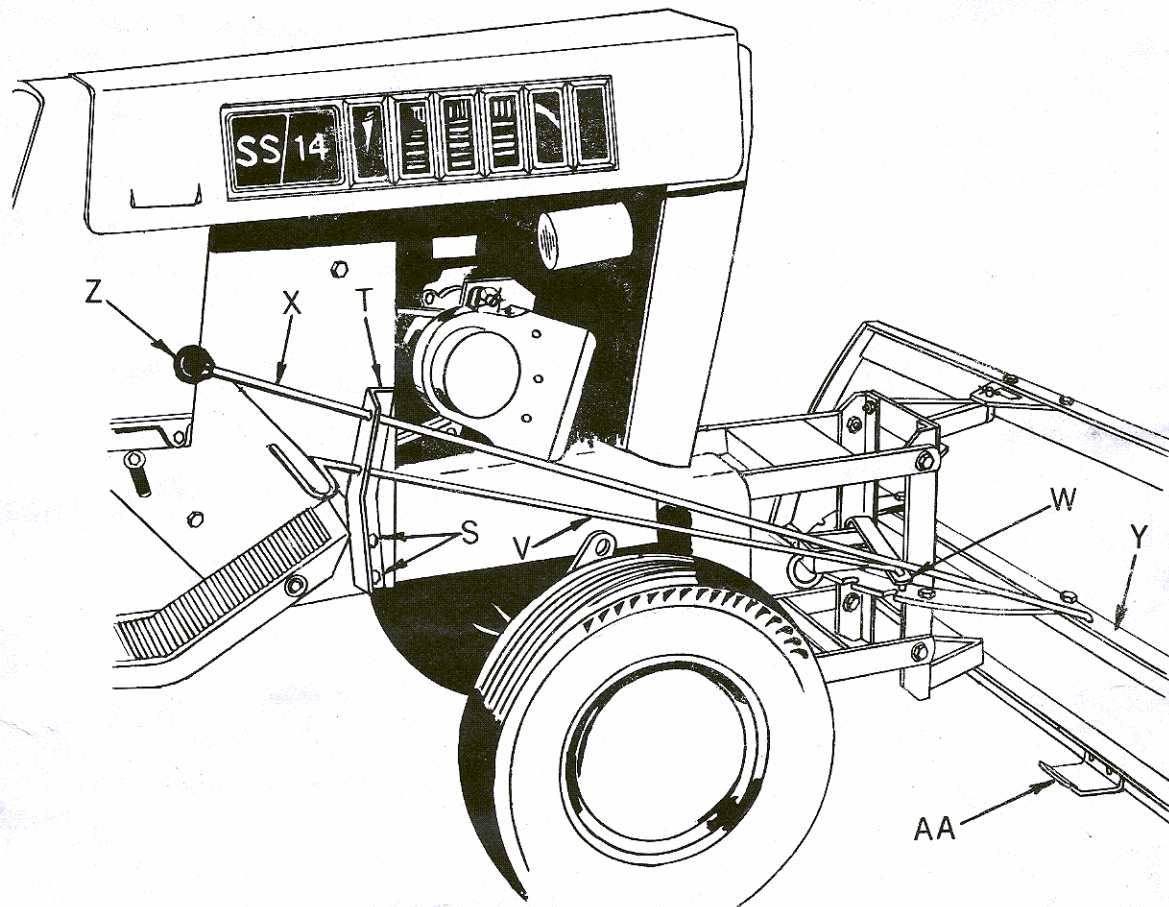

FIGURE 6
7. Refer to Figure 6. Loosen two hex bolts (S), in tractor frame and position rod bracket (T), under head of bolts. Tighten bolts securely.
8. Insert lock rod (V) (small bent end forward) Figure 6 through lower hole in rod bracket (T). Assemble front (small bent end) of lock rod (V) into hole of pivot arm weldment (W). Secure with cotter pin $1/8 \times 5/8$ found in plastic bag. Spread cotter.
9. Insert bent end of blade rod (X) Figure 6 through upper hole in rod bracket (T) and assemble to hole in center rail (Y) as shown in Figure 6. Secure with cotter pin found in plastic bag. Spread cotter.
10. Refer to Figure 6. Screw control knob (Z) on rear (threaded) end of blade rod (X) as shown.
To angle the bulldozer blade, push lock rod (V) Figure 6 forward with foot to release the latch and push or pull blade rod (X) Figure 6, to desired blade position. Remove foot from lock rod to lock blade in desired position. There are seven blade positions: straight ahead, three distinct angles to the right, and three to the left.